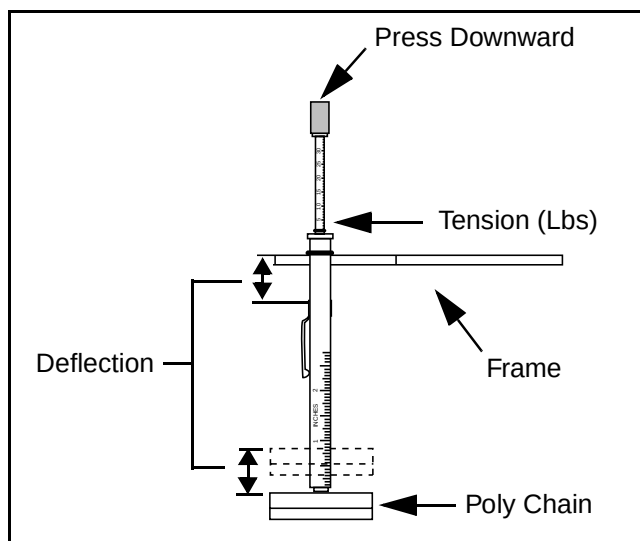

Figure 6 - 29 Testing Poly Chain Belts
- 3) Set the large O-ring 1/4" (6.4 mm) above the mark. (Figure 6 - 25)